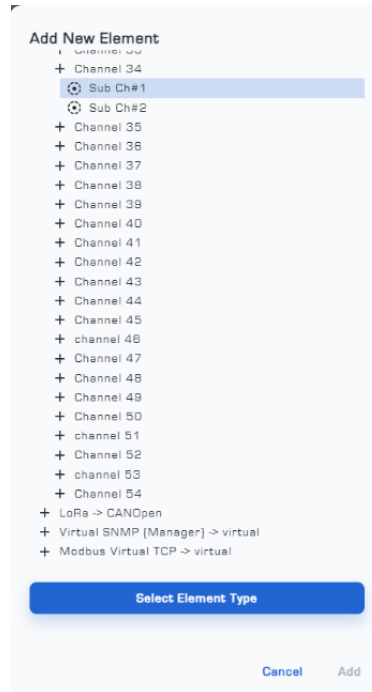

Figure 25: Card, channel or sub-channel selection screen
- (2) Select your desired card, channel, or, if applicable, sub-channel, and then press 'Select Element Type' (Figure 25).